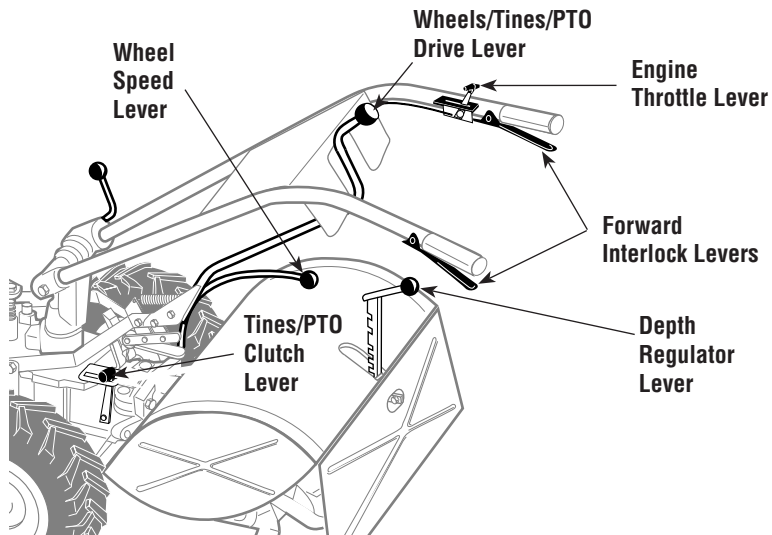
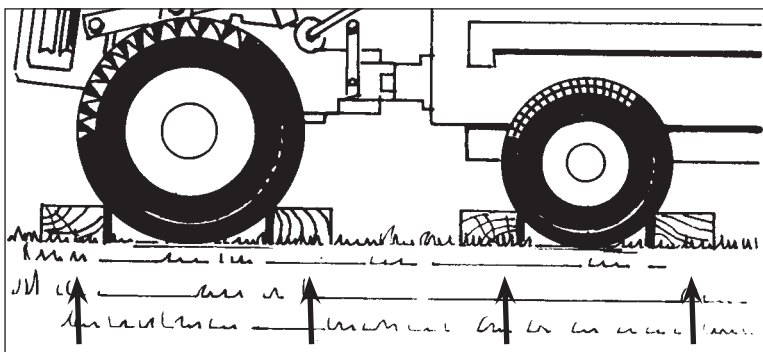

Figure 4-22: PTO Power Unit controls.
Figure 4-29: Block wheels on PTO Power Unit and stationary attachment.
4. Place the Wheels/Tines/PTO Drive Lever into NEUTRAL (Figure 4-22).
5. Place Tines/PTO Clutch Lever in DISENGAGE (Figure 4-22).
6. Place Wheel Speed Lever into FREE WHEEL (Figure 4-22).
2. Move Wheel Speed Lever (Figure 4-22) to FREEWHEEL, then block all wheels (Figure 4-29) to prevent the equipment from rolling.
1. Move the Tines/PTO Clutch Lever (Figure 4-22) to DISENGAGE.
2. Move the Wheel Speed Lever (Figure 4-22) to either SLOW or FAST position. To do this, roll the PTO Power Unit while shifting lever until wheels engage.
1. Move Tines/PTO Clutch Lever (Figure 4-22) into ENGAGE.
2. To apply power to PTO-driven attachments, move Wheels/Tines/PTO Lever (Figure 4-22) down to FORWARD